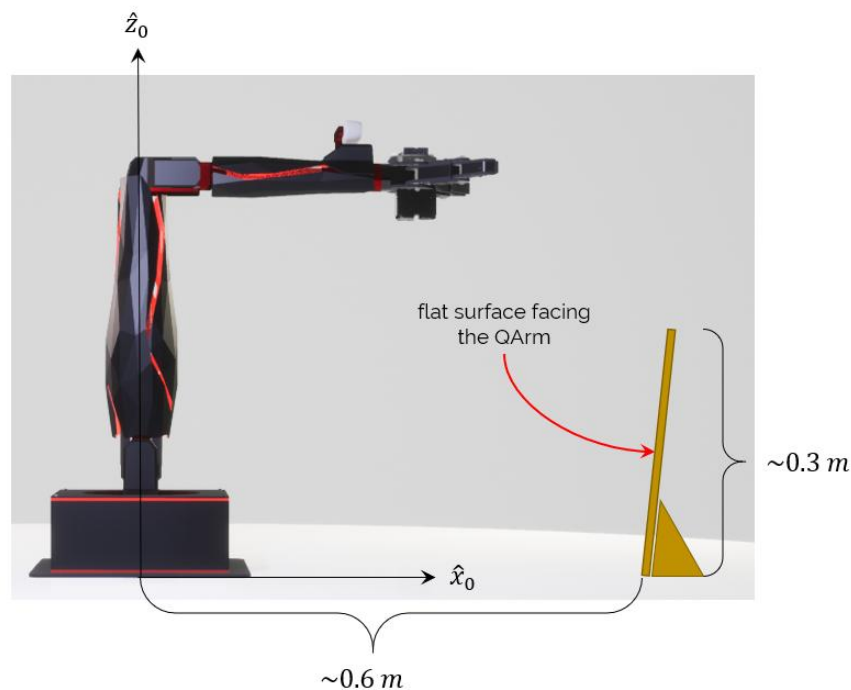

Figure 1: Suggested flat surface pose with respect to the manipulator
- Student A - approach the arm and while supporting it, turn off the power using the switch at the rear end of the base. Move the arm to the rest position slowly. Now turn ON the power using the switch at the rear end. The manipulator should remain in the rest position. Place the flat surface as shown in Figure 1 in front of the manipulator.